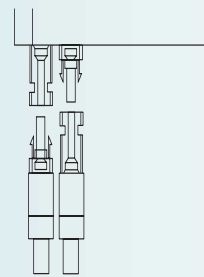

Fig. 12
- Connect the positive polarity to the (+) pins on the device's DC input and the negative polarity to the (-) pins (Fig. 12).